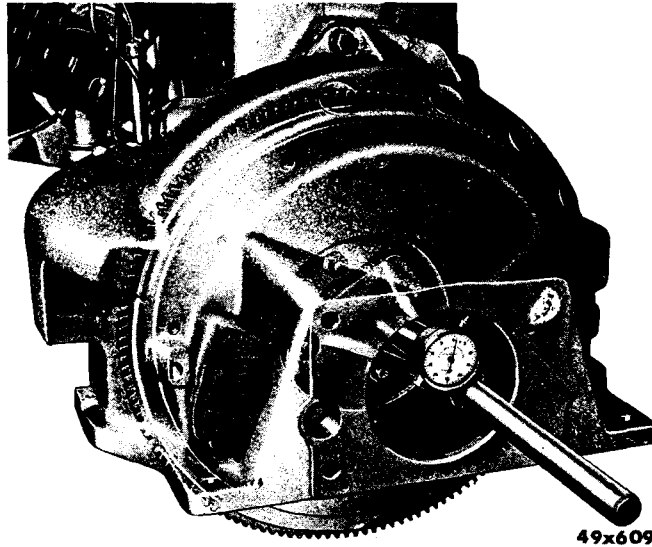

Figure 61 — Method of Attaching Fixture C-870 (Flywheel Type Housing Illustrated)
3. Install the fixture C-870 to the flywheel attaching bolts (Figure 61) or, if fluid drive unit is to be installed, attach the fixture to the crankshaft flange bolts and install the indicator Tool (C-435 or C-430), as shown in Figure 62. Rotate the crankshaft and check the inside diameter of the housing bore; it should not vary more than .005 inch to one complete revolution of the crankshaft. If alignment is necessary, remove the dowel pins and tap the housing until it comes within the